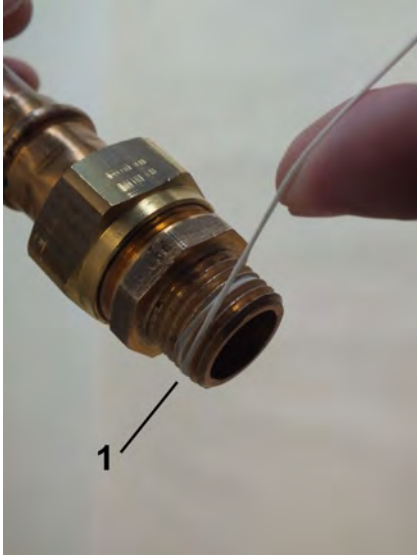

Fig. 10: Apply sealing thread
2.  Apply sealing thread (Fig. 10/1) to the napped area in the threaded direction. Observe the quantity recommended by the sealant manufacturer.